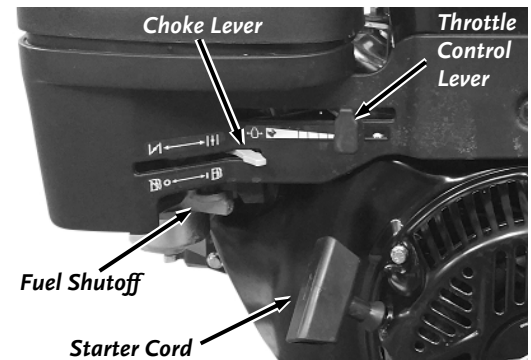

Figure 10
2. Turn the Fuel Shut-Off Valve to the ON position (**Figure 10**).
4. Position Choke Control Lever to the left so it is in the Choke position (Leave it in the RUN position to the right if the Engine is already warm) (**Figure 10**).
5. Move the Throttle Control Lever to about half way between Slow (turtle) and Fast (rabbit) Position (**Figure 10**).